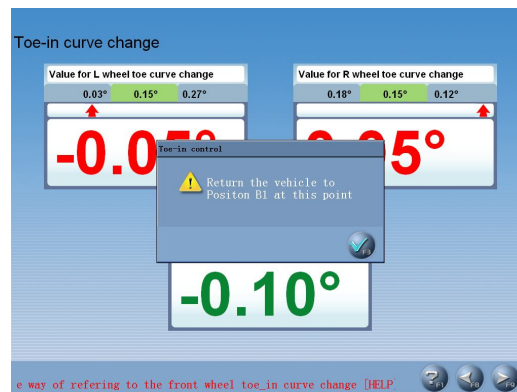

Fig.4.25
- Put down the vehicle to position B1. Adjust the vehicle front toe-in to the allowed scope according to the standard specifications. The interface is as shown in Fig.4.25: